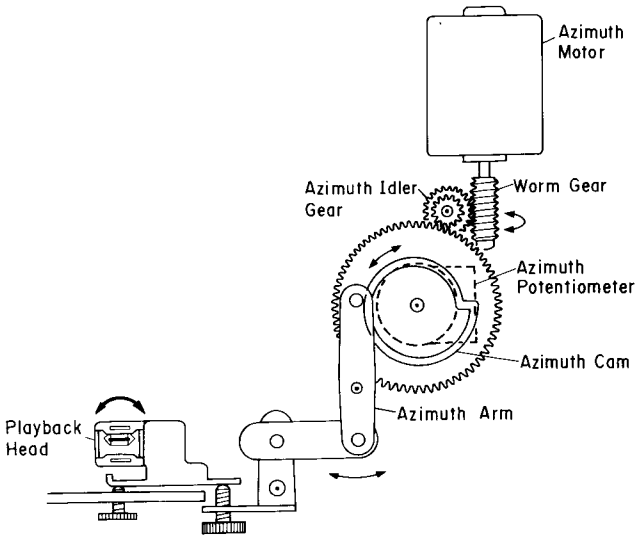

Fig. 5.15 Playback Head Azimuth Correction Mechanism
- (d) A mechanical illustration is shown in Fig. 5.15. As the azimuth motor rotates, the rotation is transferred via the worm gear (mounted on the motor shaft), the azimuth idler gear, and to the azimuth cam. The azimuth potentiometer's shaft, because it is directly linked with the azimuth cam, rotates with the azimuth cam. The azimuth arm is swung by the azimuth cam, thus changing the inclination (azimuth) of the playback head. The data per correction operation (addition or subtraction of data "2") causes a 1.3' inclination.